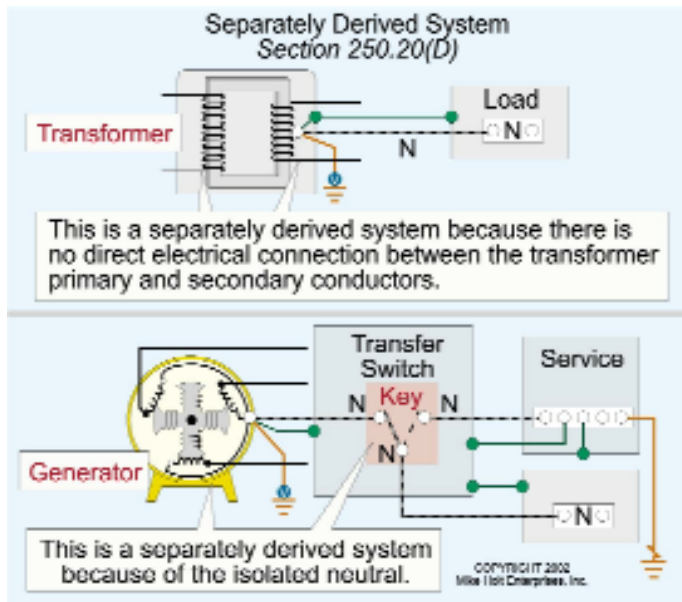

Figure 250-50
**(D) Separately Derived Systems.** Separately derived systems, which are required to be grounded by 250.20(A) or (B), shall be grounded (and bonded) in accordance with the requirements contained in 250.30.
**AUTHOR'S COMMENT:** According to Article 100, a separately derived system is a premises wiring system that has no direct electrical connection between the systems, including the grounded (neutral) conductor. Transformers are typically separately derived because the primary and secondary conductors are electrically isolated from each other. Generators that supply a transfer switch that opens the grounded (neutral) conductor are also separately derived. Figure 250-50